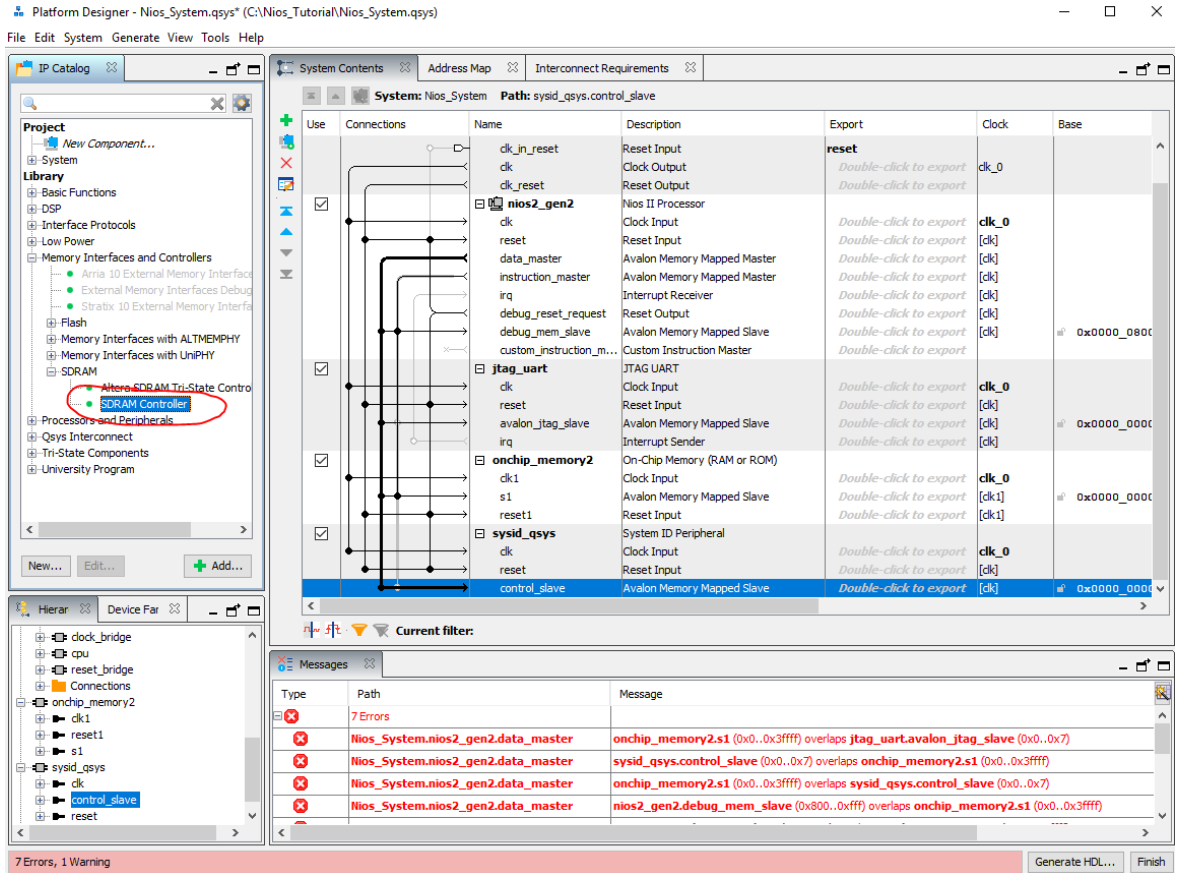

Figure 1-22 Adding SDRAM to System
15.) Now we will add the SDRAM to the system which will be used instead of the on-chip memory. To do this choose **Library** → **Memory Interfaces and Controllelrs** → **SDRAM** → **Controller** as shown in Figure 1-22 and 1-23.